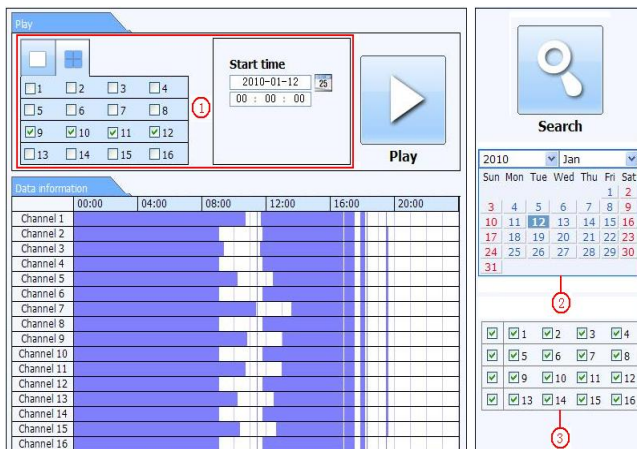

Fig 7-4 Time Search Interface
- Go to Search→Time Search. Refer to Fig 7-4.